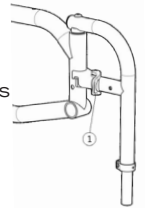

Fig. 4b
- Insert the front rigging pivot into the wheelchair's mounting tube (Fig. 4b)
- Lift the assembly up (Fig. 4b) so as to disconnect it from the wheelchair's frame.